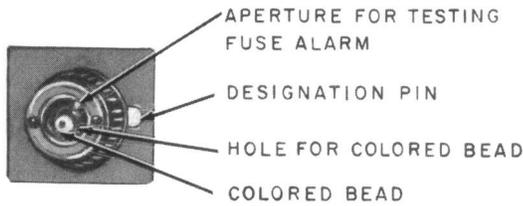

Fig. 5—70-Type Alarm Fuse With Alarm Test Point
**Note:** A test point is provided on the front of fuse cap for 70-type fuses (refer to Fig. 5). This test point should be used to test the fuse alarms.